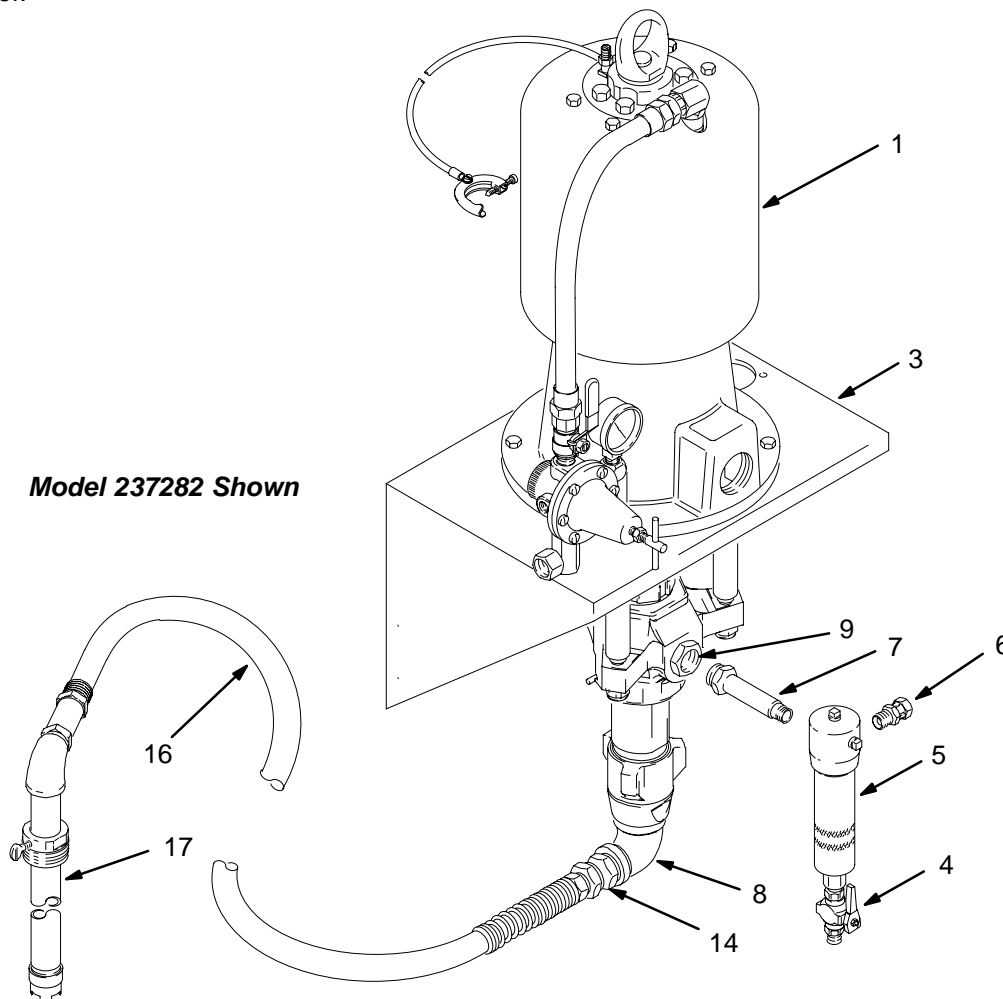

Fig. 5
2. Attach a heater wall bracket to each heater's mounting posts with the M8 x 1.25 screws and lockwashers supplied with the heater (35).
4. Remove the fluid filter (5) and long nipple (7) from the pump fluid outlet. Do not remove the bushing (9). Discard the nipple (7). See Fig. 5.
1. Remove the suction tube (17), fittings (52 and 53), hose (16), and adapter (14). See Fig. 5. Keep these parts for use later.